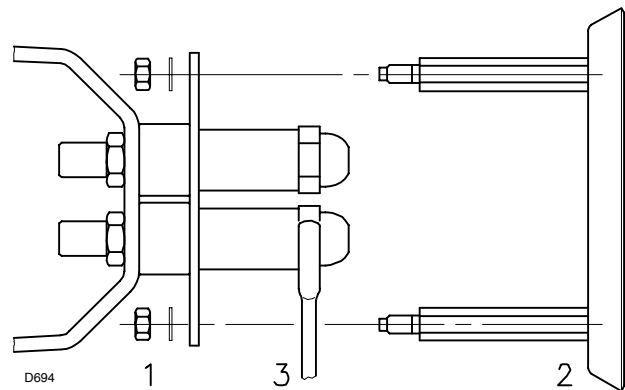

Fig. 14
- Remove the nuts 1) (Fig. 14 on page 18) and the disk 2).
- Use spanner 3) (Fig. 14 on page 18) to change the nozzles.
- Remove the nuts 1)(Fig. 14) and the disk 2).
- Use spanner 3)(Fig. 14) to change the nozzles.